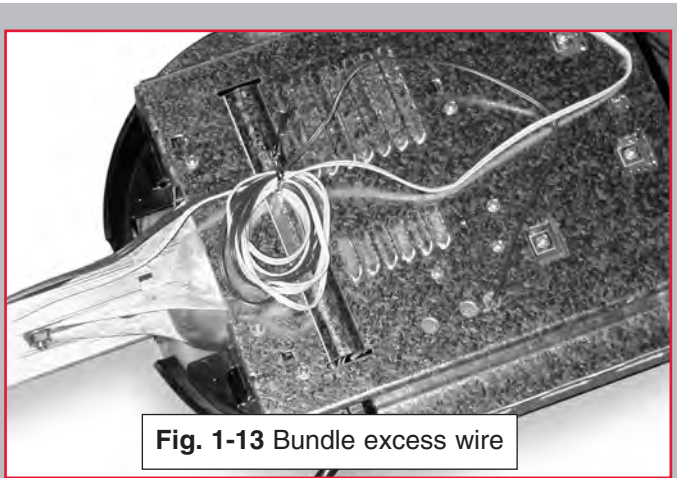

Fig. 1-13 Bundle excess wire
14. Bundle excess limit switch wires (Fig. 1-13).